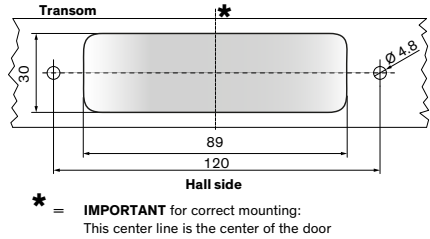

Figure 10: Template (Drilling and cutting out)
2. Drill two 4.8 mm (3/16 inch) diameter holes for the preassembled sensor into the transom with 120 mm distance from drilling hole to drilling hole (Figure 10).